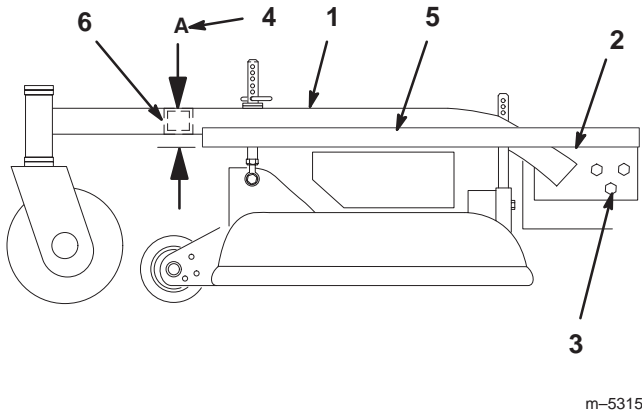

Figure 48
2. Place a long straight edge on top of the engine deck as shown in figure 48.
3. At the carrier frame cross tube, measure location **A** height (Fig. 48). This measurement must be 2–13/16 in. (71 mm), plus or minus a 1/4 in. (6 mm)
5. Loosen the carrier frame mounting bolts on both sides of the machine (Fig. 48).
6. Align the carrier frame and engine deck to match 2–13/16 in. (71 mm), plus or minus a 1/4 in. (6 mm) at location **A** (Fig. 48).